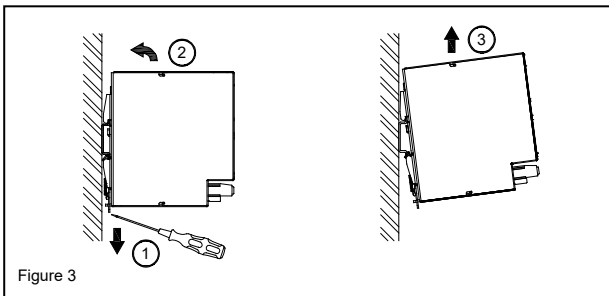

Figure 3
**4. Dismounting (Fig. 3)**
To uninstall, pull or slide down the latch as shown in Fig. 3. Then, slide the PSU in the opposite direction, release the latch and pull out the PSU from the rail.